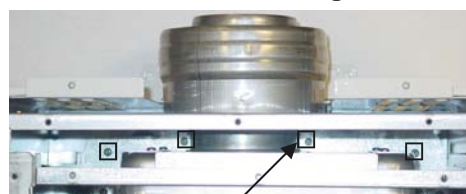

Figure 9
25. Remove the 4 screws attaching the heat exchanger to the air intake/exhaust assembly. (Figure 9)